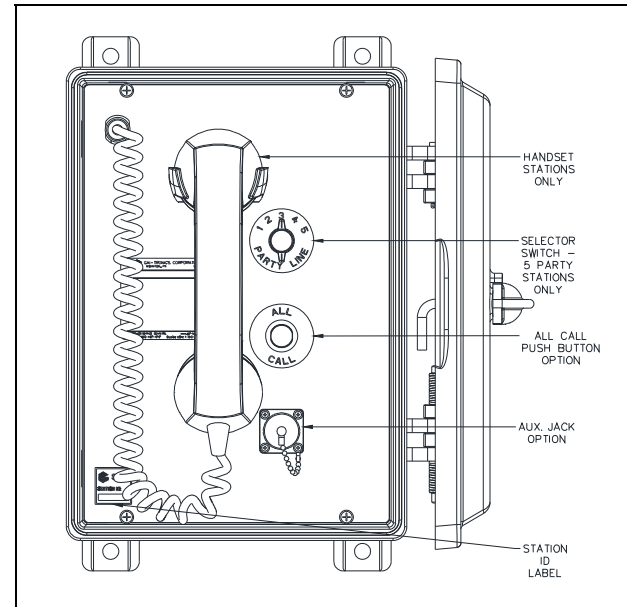
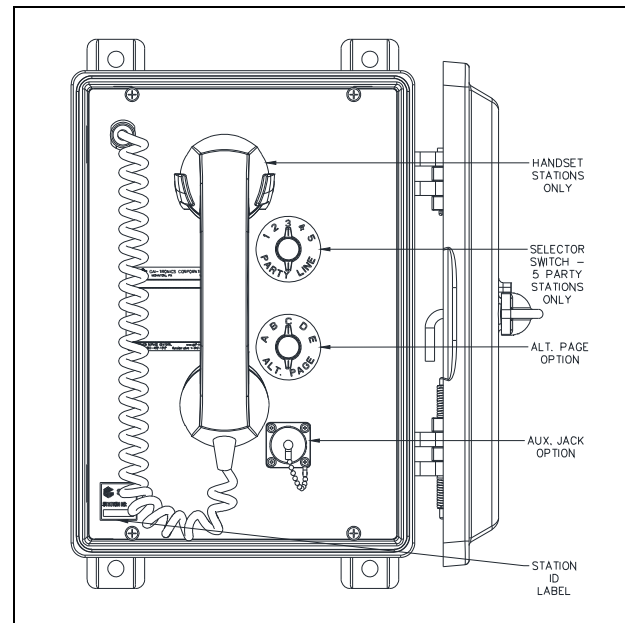

Figure 13. All-Call Button Option
Figure 14. Alternate-Page Switch Option
Use the ALL-CALL button to page an alternate destination that is programmed for the station (see Figure 13). The All-Call option must be software configured for the SP2 station. To initiate a page using the ALL-CALL feature:
Use the ALT-PAGE option selector switch to page one of five alternate destinations that have been programmed for the station (see Figure 14).
1. Attach the headset assembly to the auxiliary jack on the station (see Figure 13 or Figure 14).